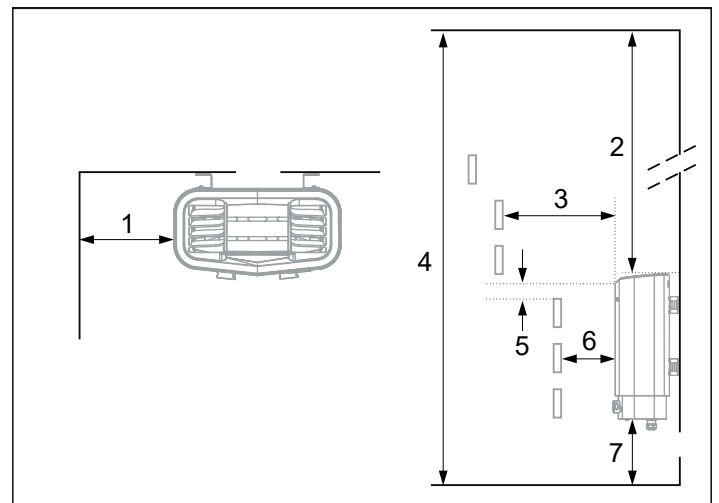

Figure 2: Heater positioning - normal installation
- at a safe distance from the floor, side walls and interior fittings (see Figure 2).